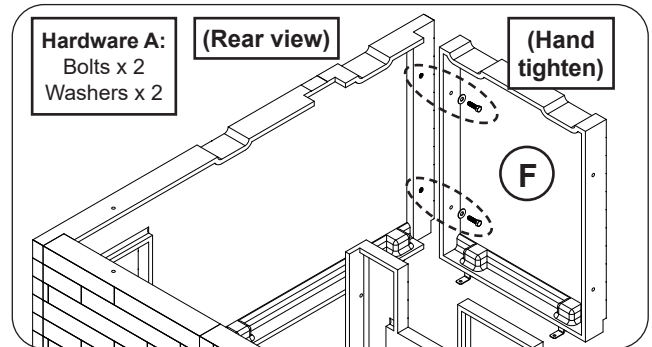

Fig. 12-2 Assemble front wall
Orient the front wall (F) and repeat the hardware installation process (hardware kit A). Hand tighten only. See Fig. 12-2.